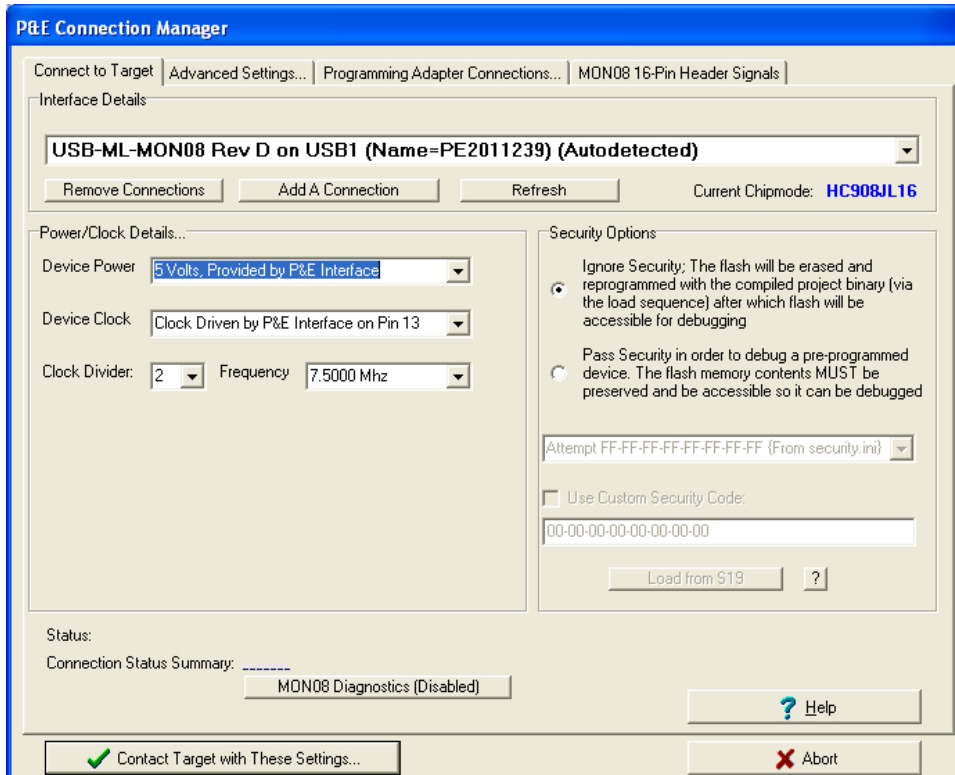

Figure 3: CodeWarrior Connection Manager for USB Programmers
4. Start the CodeWarrior debugger by selecting "Debug" from the Project menu or by clicking on the icon of a green arrow and bug at the top right above the project box. This will bring up a dialog box (Fig. 3) that defines the connection between CodeWarrior and the development board.